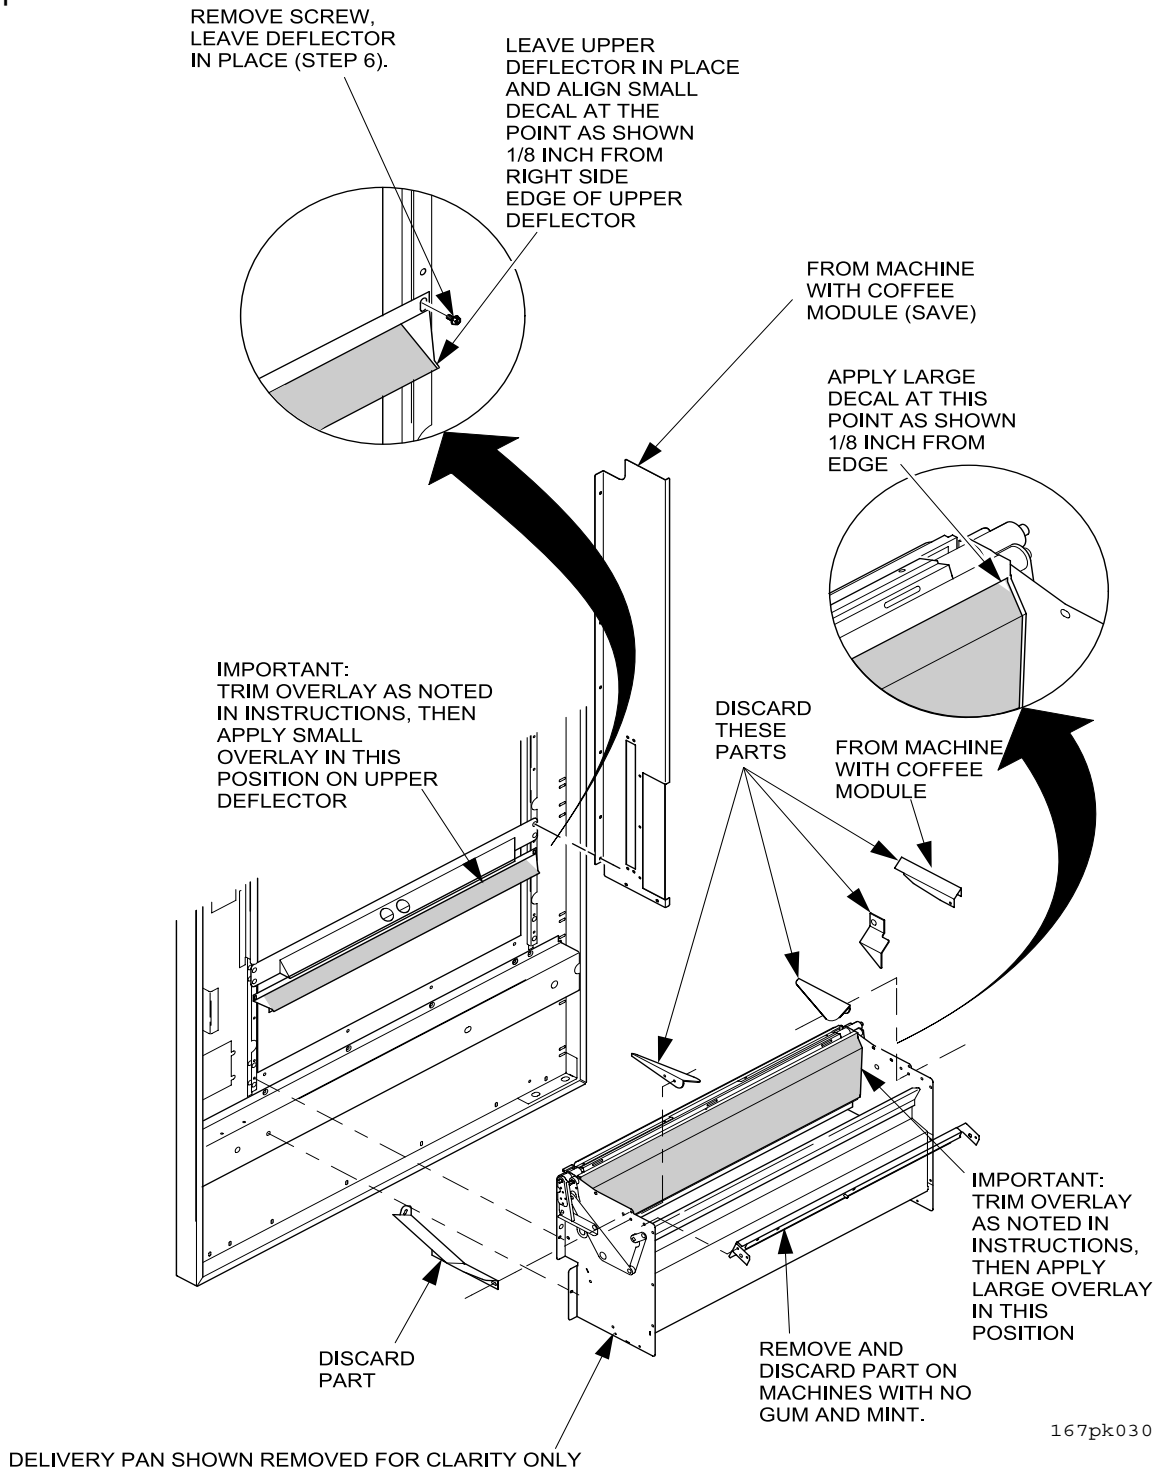

Figure 2
3. Remove and discard all deflectors as shown in Figure 2 below. Thoroughly clean the shaded areas shown with the alcohol wipes provided. After removing all grease and dirt on these parts, apply the black overlays to these areas as described in the illustration. Cut the overlays to length along the clear lines according to the width of your delivery pan.
6. Remove the screws holding the upper deflector, but leave the part resting in place (See Figure 2 on page 4).